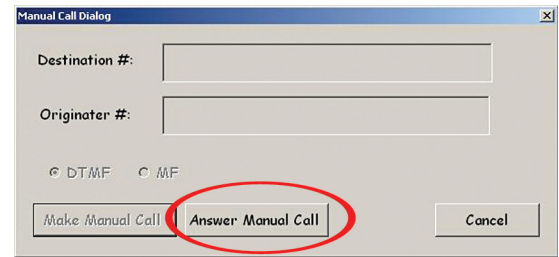

Figure 3.1.9
9. While still on PCM 2, Channel 1 click the manual button. This action launches the “Manual Call Dialog” box. Because the selected test on PCM 2, Channel 1 is a responder only the “Answer Manual Call” button is active (see figure 3.1.9). To place the Send/Measure Tone responder in a wait to answer call state click the “Answer Manual Call” Button.